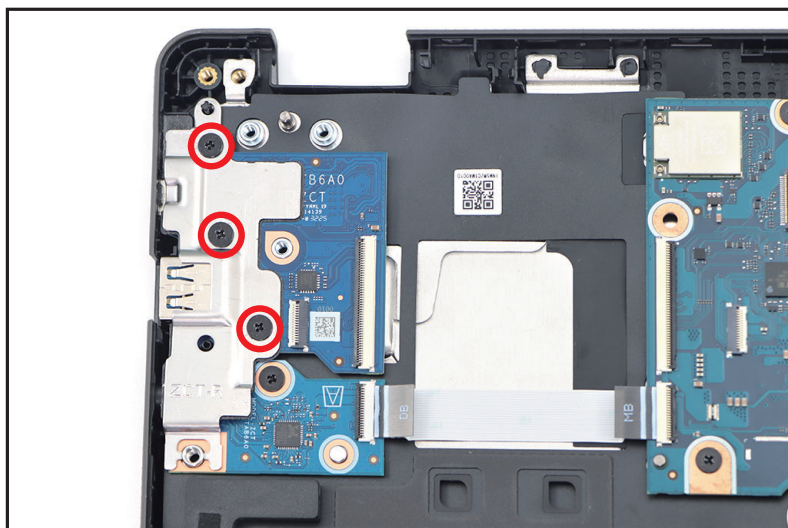

Figure 1-35. USB Board Removal
3. Remove three (3) screws securing the USB board and I/O bracket (Figure 1-35).